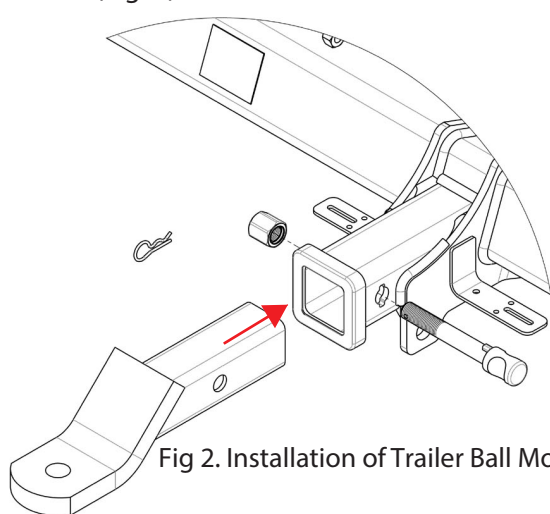

Fig 2. Installation of Trailer Ball Mount
STEP 1 Insert Trailer Ball Mount (TBM) into towbar HITCHBOX, aligning hole in TBM SHANK with hole in HITCHBOX (Fig. 2).